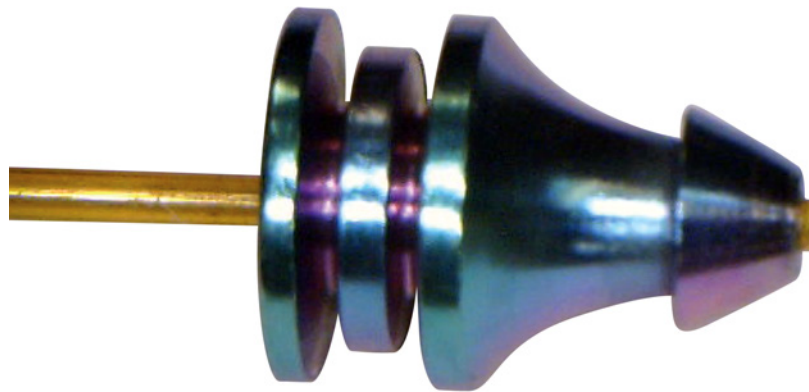

Figure 15. Properly-trimmed column and ferrule
- 6 Using the column cutter, trim the column at the small end of the ferrule leaving approximately 0.3 mm of the column extending from the ferrule (**Figure 15**). The minimum size of the column head extending from the ferrule is 0.1 mm and the maximum is 0.5 mm. It is important to have 0.5 mm or less column head to prevent column conflict in the union.